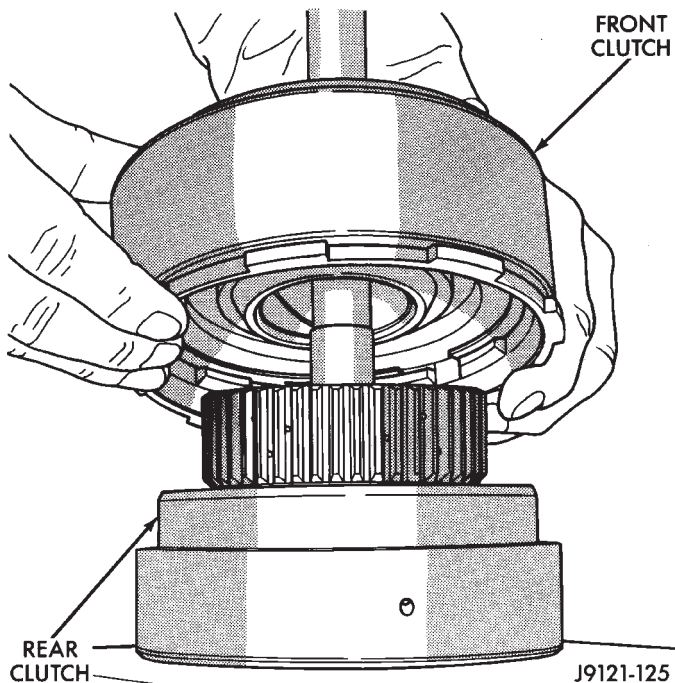

Fig. 95 Separating Front/Rear Clutch Assemblies
(23) Lift front clutch off rear clutch (Fig. 95). Set clutch units aside for overhaul.